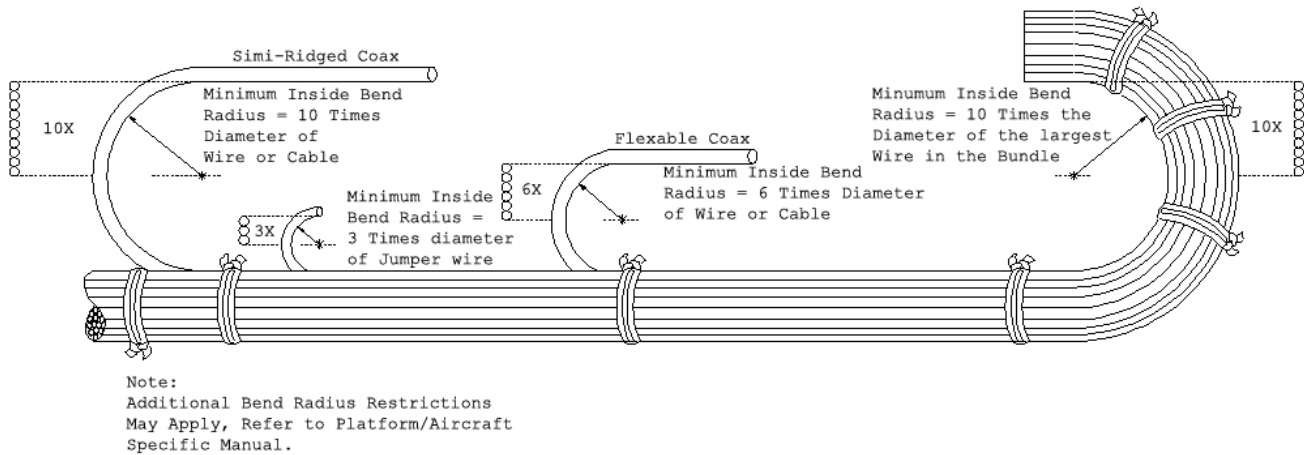

Figure 12. Bend Radius
23. RADIUS OF BEND. Wiring bend radius shall comply with the following requirements, as shown in Figure 12: